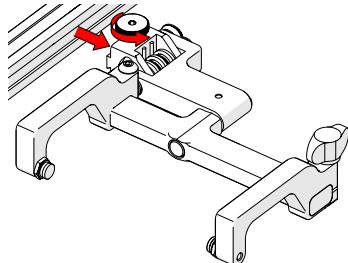

Fig. 115 - Attach probe holder
1. Rotate the probe holder adjustment knob (Fig. 115) and attach the probe holder to a pivot mount of a raster arm or frame bar. Tighten the probe holder adjustment knob.